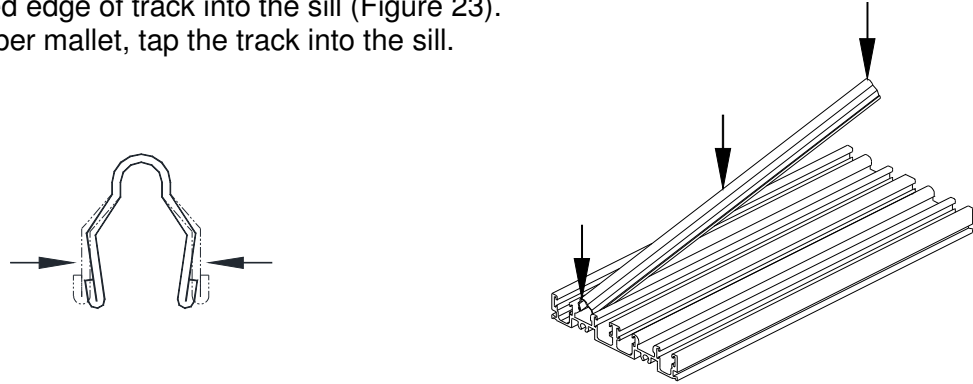

Figure 23:
2. Push tapered edge of track into the sill (Figure 23).